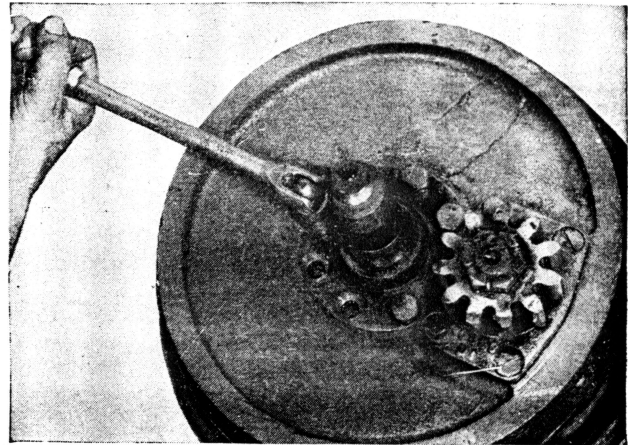

Fig. 14
2. Complete disc, drive pinion and drive shaft assembly may now be removed from axle. See Fig. 14.